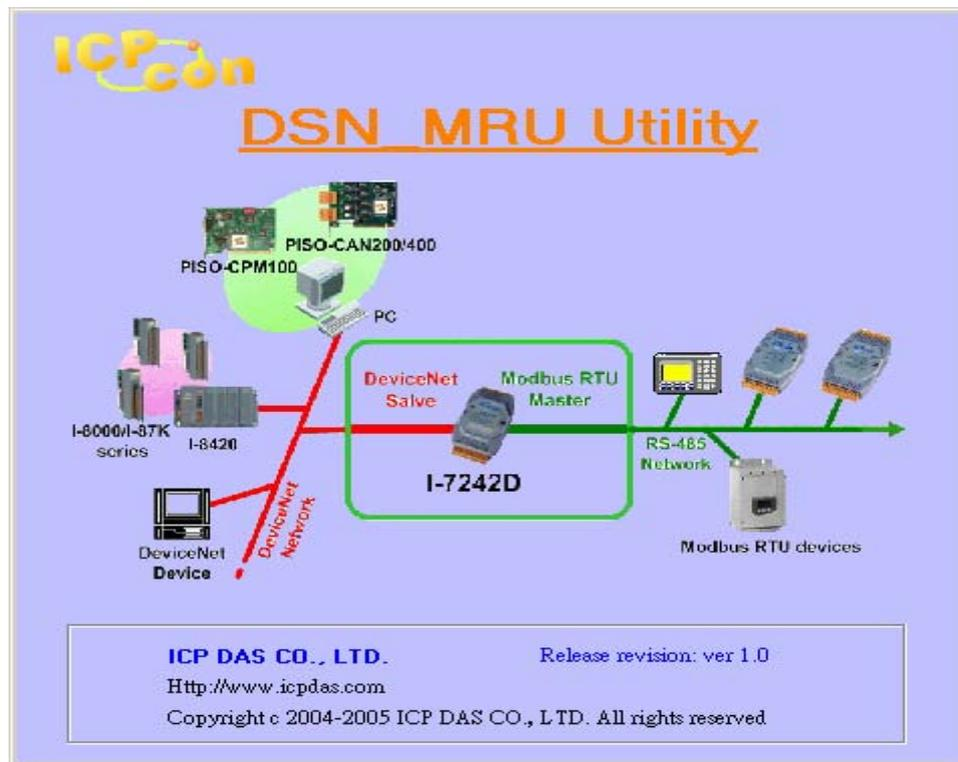

Figure 6-16. "Start-Up"
Step 2: Turn on the I-7242D. And then execute the DNS_MRU.exe file. The start-up figure would be displayed as figure 6-16.